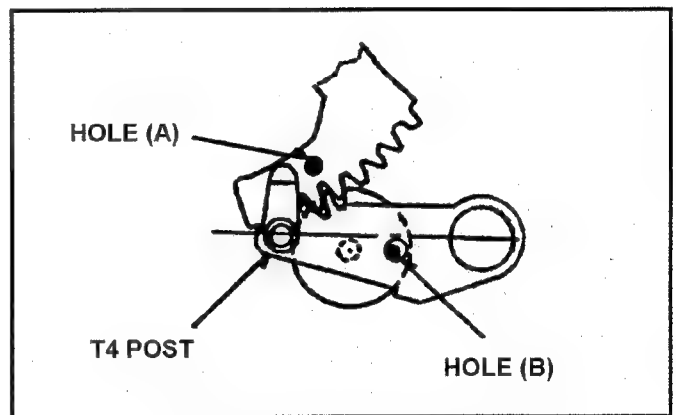

Fig. 10-17-1 Phase of T4 Post
1. Confirm that the hole (B) of T4 Connector Gear was matched to hole of T4 Post as shown in figure 10-17-1.
2. Confirm the relation between portion (C) of T4 Connector Gear and hole (A) as shown in Figure 10-17-1.